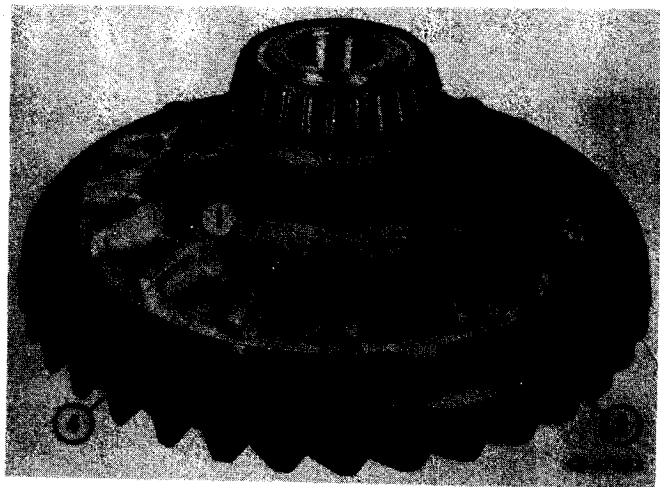

Figure 6-14
Remove hex nuts (1, Fig. 6-14), lock washers (2) and cap screws and separate ring gear (3) from case (4).